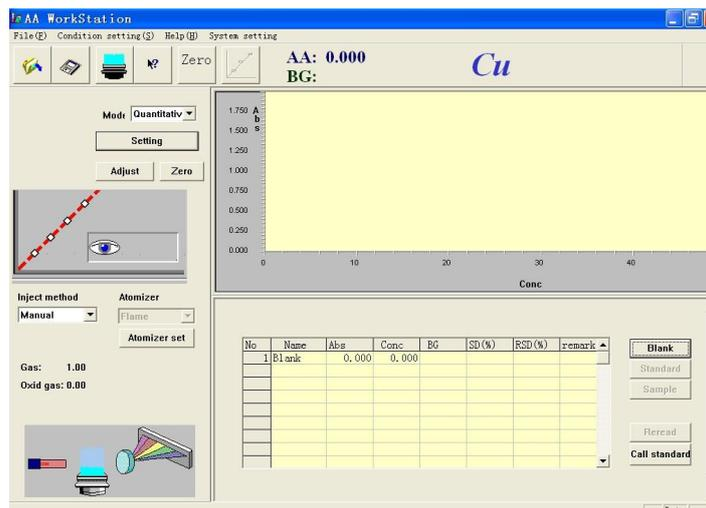

Figure 6-9
11. Press "Zero" to zero the instrument. After zeroing is entered, spray and suck the standard sample 1. Press "Standard blank", and the screen will appear as shown in Figure 6-9.